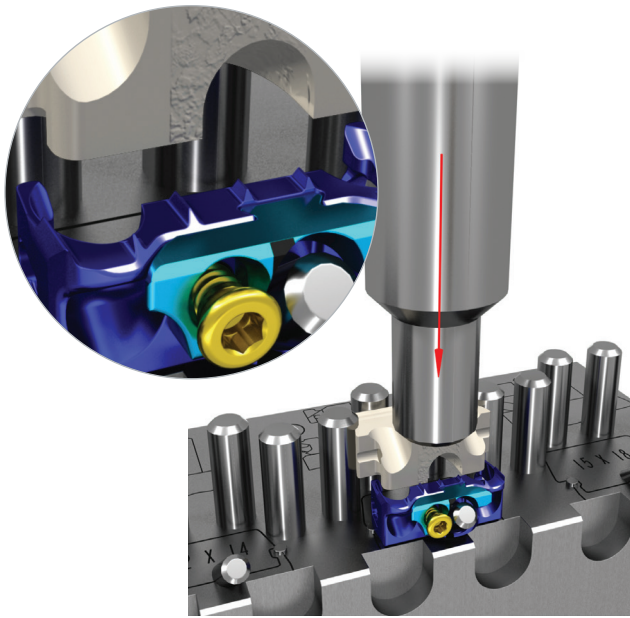

Figure 23
- Repeat the steps for Pre-Operative Planning and Patient Positioning through Implant Assembly on pages 6–10 (Figure 23).